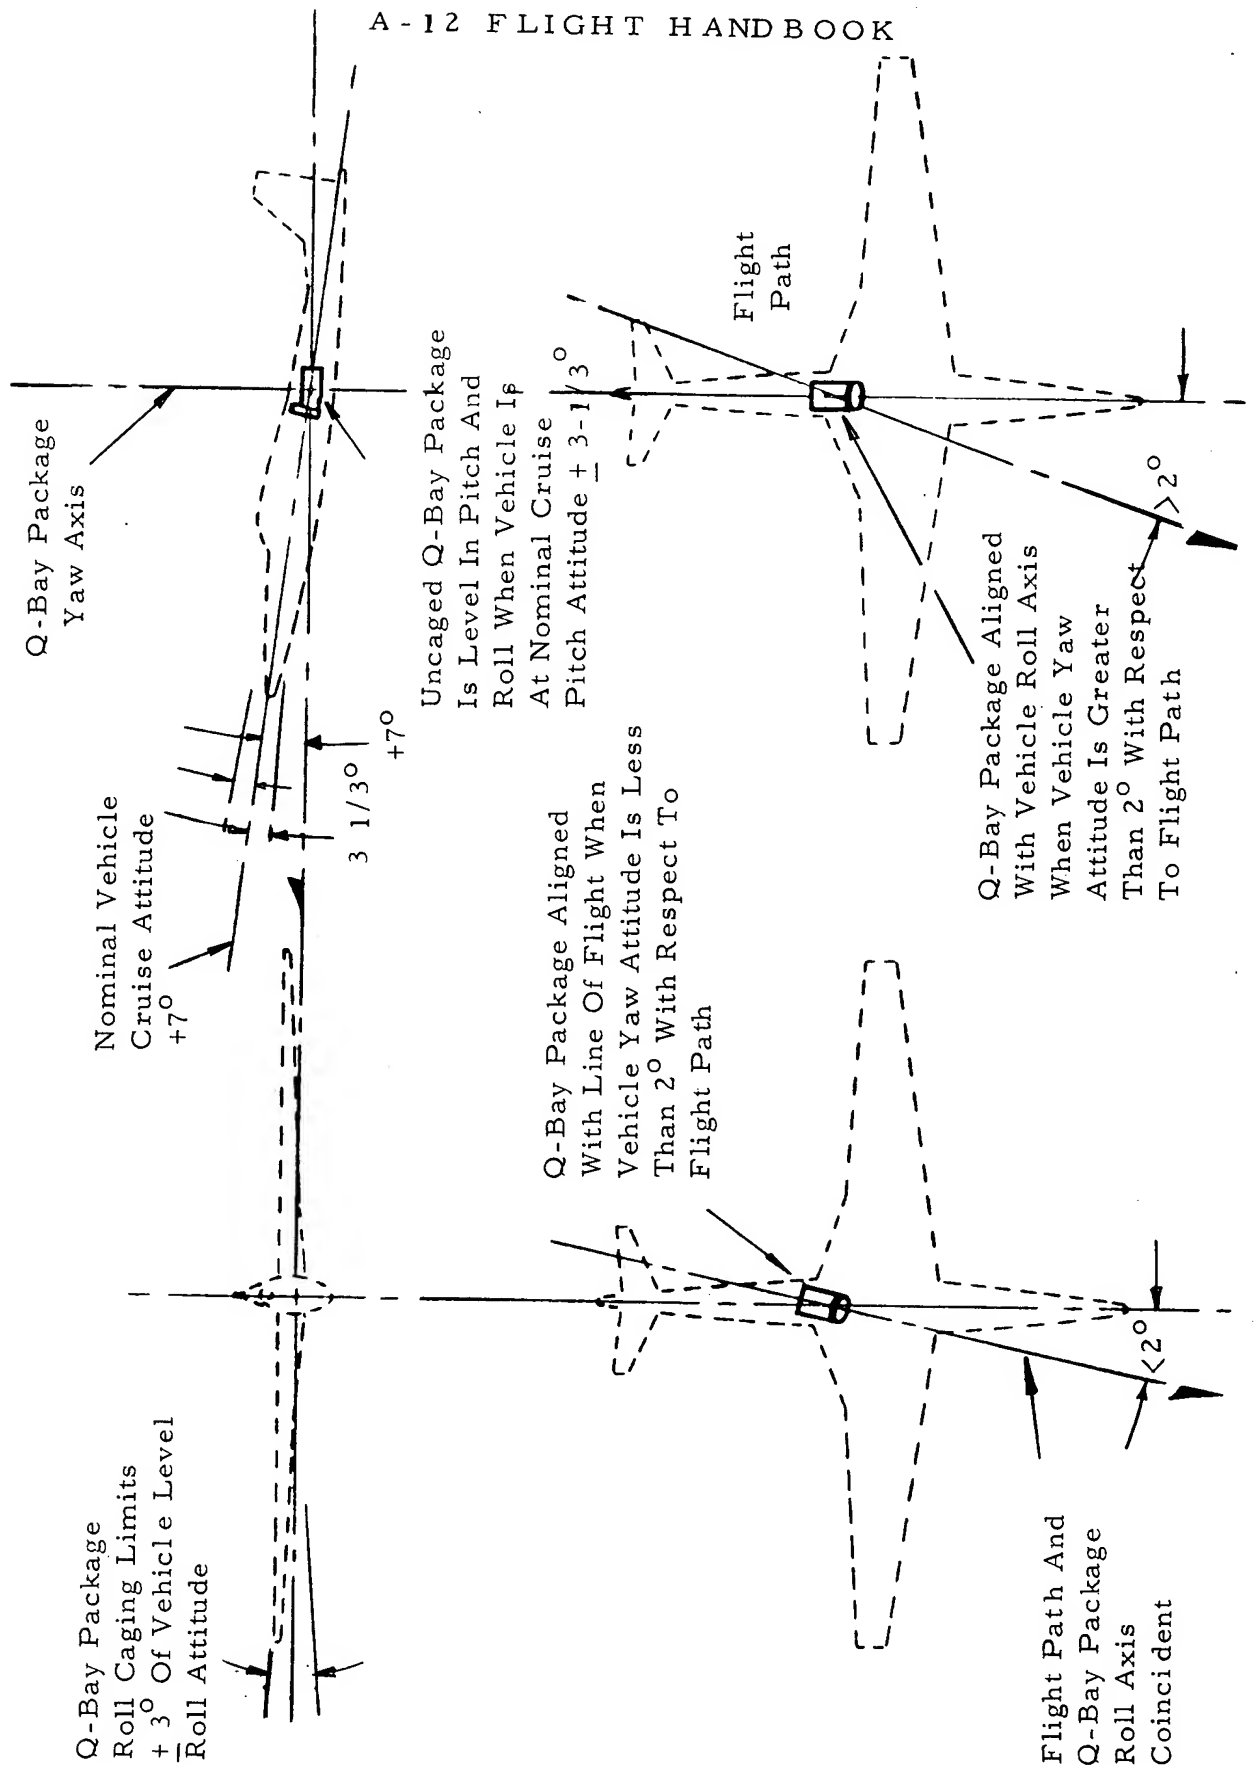

Figure 1-8. Vehicle And Type I Attitude Relationships, Uncaged Condition
- 1-16. The package will uncage in the operate mode only when the platform is coarse level -- within $\pm 2^{\circ}$ of true vertical. The vehicle must be within $\pm 2^{\circ}$ in pitch and roll of its nominal cruise attitude as shown in Figure 1-8.